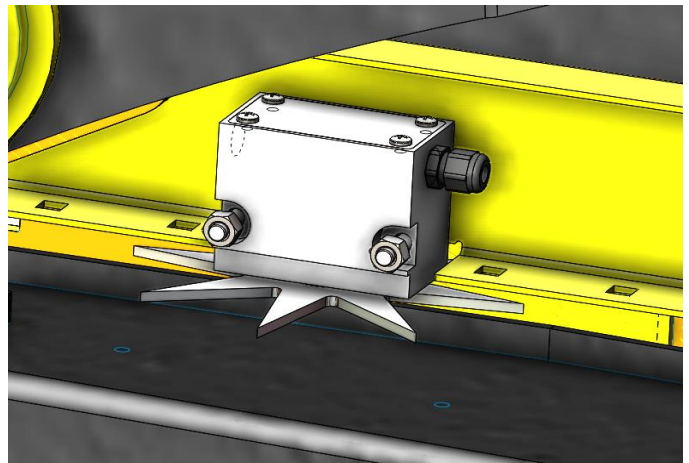

Figure 2
3. Position the star wheel mounting holes and mark the width of the star wheel 4" (112mm). As well as the depth of the star wheel of 2" (50mm). This piece will need to be removed from the baler bracket in order for star wheel to fit flush with baler bracket (Figure 2). After cutting touch up with paint to prevent rusting.
4. Mount star wheel with two position plug on right side of baler when looking at the back. Mount star wheel with six position plug to left side or ladder side of baler. Use hardware from parts bag (E) to mount